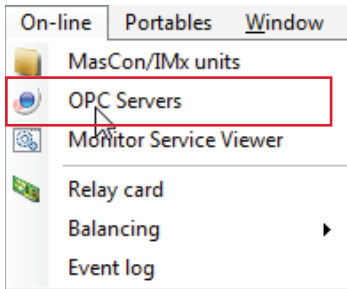

Fig. 2. Select OPC Servers from the On-line menu.
- Go to the **On-line** menu and select **OPC Servers** (→ fig. 2).